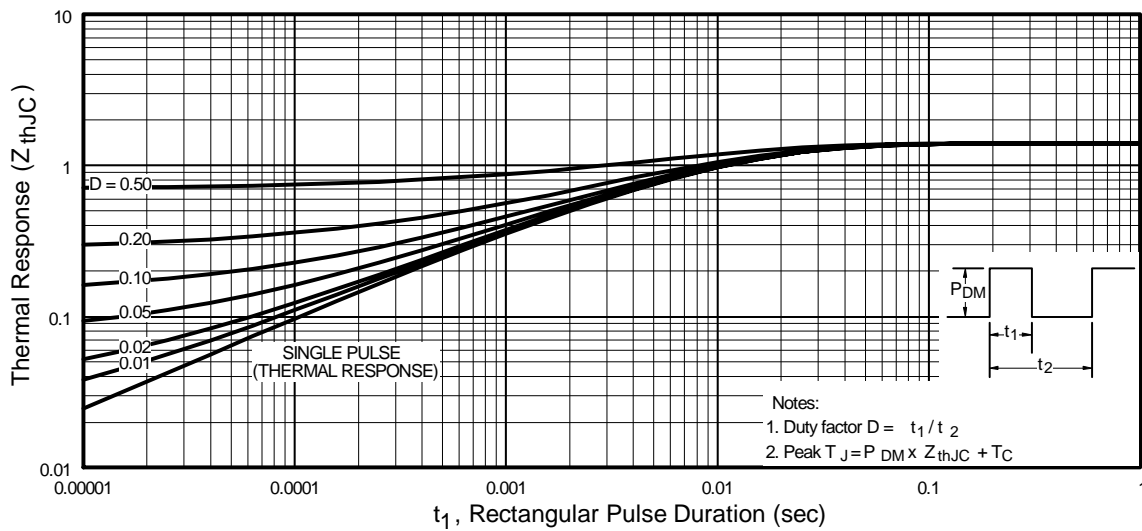

Fig 11. Maximum Effective Transient Thermal Impedance, Junction-to-Case
- ① Repetitive rating; pulse width limited by max. junction temperature. (See fig. 11)
- ② Starting $T_J = 25^\circ\text{C}$, $L = 520\mu H$